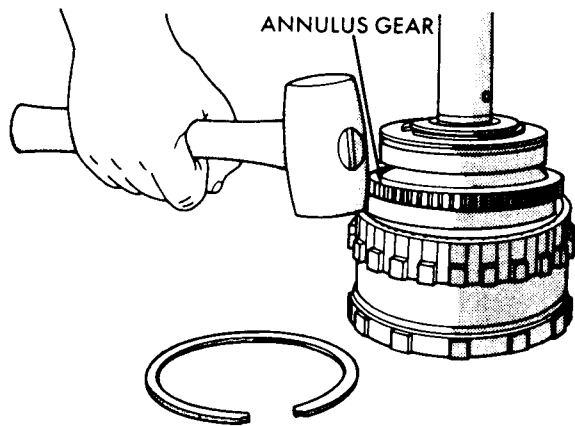

Fig. 11—Remove Annulus Gear
(9) To remove annulus gear (one snap ring secures it to the output shaft), a light tap with a soft mallet will pop it off the shaft (Fig. 11). Also, remove output shaft front bearing.